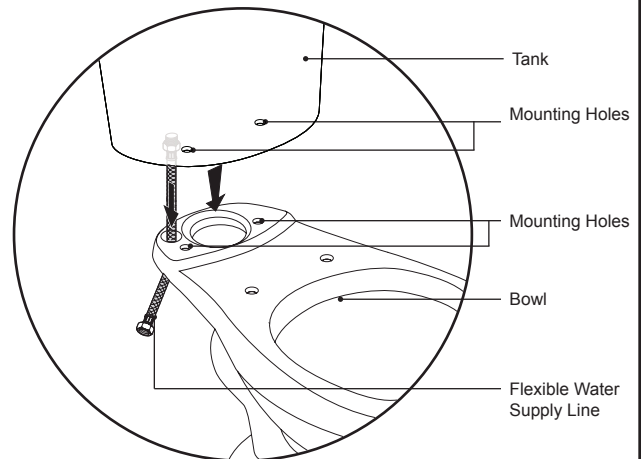

Figure 10
- 3 Place the tank on the bowl, aligning the mounting holes of the tank with the mounting holes on the bowl (Figure 10).
Figure 10 applies to the Espree™ toilet installation only.